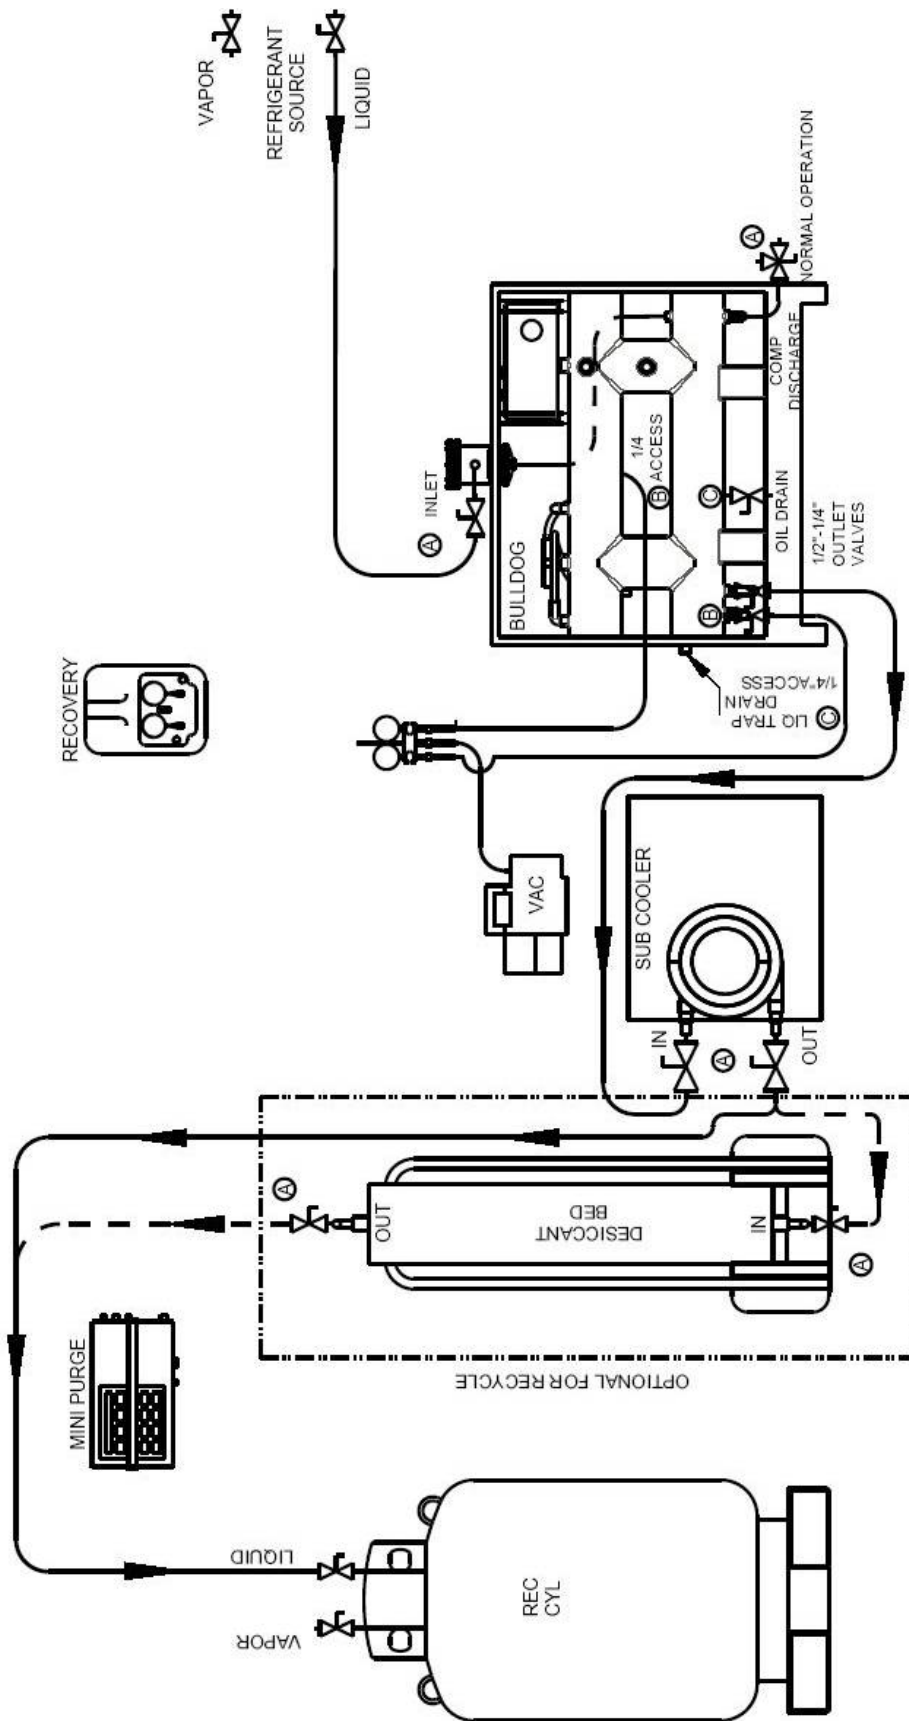

FIGURE 5: RECYCLE
3. Connect high pressure refrigerant hoses, as shown in (Figure 5) on page 19. At this time, connect safety float cable from BullDog to recovery tank or use a suitable scale. If a scale is to be used instead of float safety cutout, the 80% full bypass switch will need to be set to the On position for BullDog to run.
4. Open isolation valves on BullDog and Hoses (Figure 5) (A). And turn compressor discharge 3-way valve to NORMAL Position.
5. Connect vacuum pump to 1/4" Access fittings Located on Outlet side & Compressor Suction (Figure 5) (B) on page 20 – Pull 29" Hg. Disconnect Vacuum Pump after 29" Hg is reached!
**WARNING: Before attempting to operate this unit in vapor mode, make absolutely sure that the hoses on unit (Figure 5) (A) page 20 are hooked up correctly!**
3. For the first 2 hours of operation, user must check for waste oil at the liquid trap. Then every ½ hr and drain as needed. To drain oil, close inlet valve on BullDog, when suction pressure reaches 10 psi turn power off to sub-cooler and BullDog. Drain oil at still & liquid trap (Figure 5) (C) page 20.